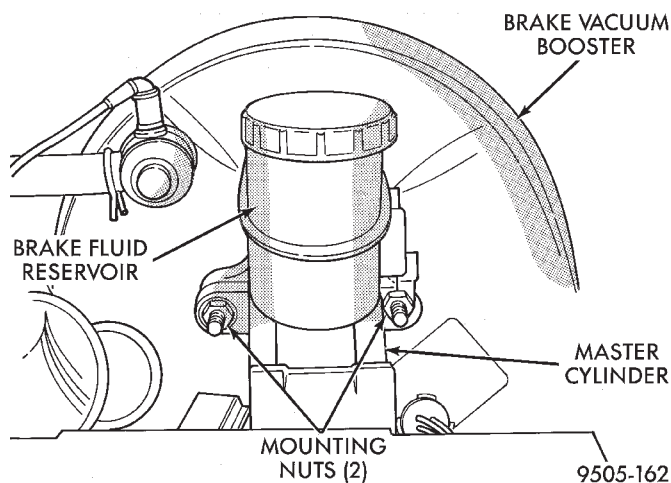
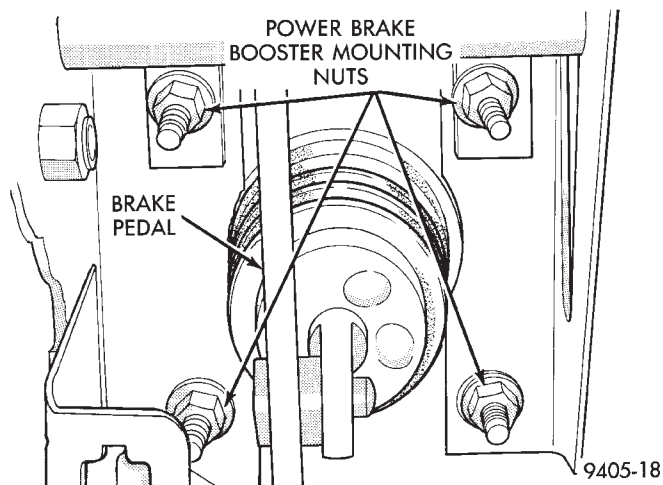

Fig. 98 Master Cylinder Mounting
Fig. 101 Power Brake Vacuum Booster Mounting
(8) Remove the 2 nuts (Fig. 98) attaching the master cylinder assembly to the power brake vacuum booster.
(11) Remove the 4 nuts attaching power brake vacuum booster to dash panel. Nuts are accessible from under dash panel in area of the steering column and pedal bracket assembly (Fig. 101).
- (1) Position power brake booster onto dash panel.
- (2) Install and torque the 4 power brake vacuum booster mounting nuts (Fig. 101) to 29 N·m (250 in. lbs.) torque.
- (3) Using lubriplate, or an equivalent, coat the surfaces of the brake pedal pin that contact the power brake vacuum booster input rod.
- (4) Connect power brake vacuum booster input rod to brake pedal pin and install a NEW retaining clip. **Use only a new retainer clip DO NOT USE the old clip.**
- (5) Position master cylinder on studs of power brake unit, aligning push rod on power brake vacuum booster with master cylinder push rod.
- (6) Install the 2 master cylinder to power brake unit mounting nuts (Fig. 98). Tighten the 2 mounting nuts to a torque of 28 N·m (250 in. lbs.).